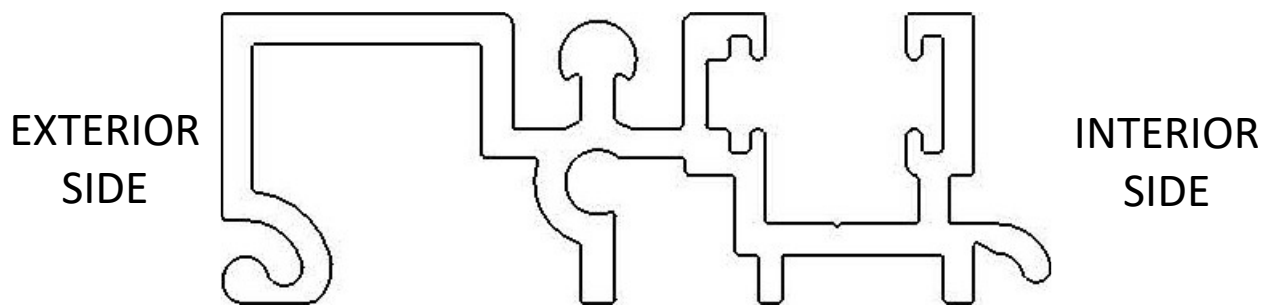

Fig. 1
1. Position the threshold on the floor in the approximate location and make sure the inside edge of the threshold is properly aligned with the structure. If you have a flush sill, refer to the image below Fig. 1 to determine interior side.